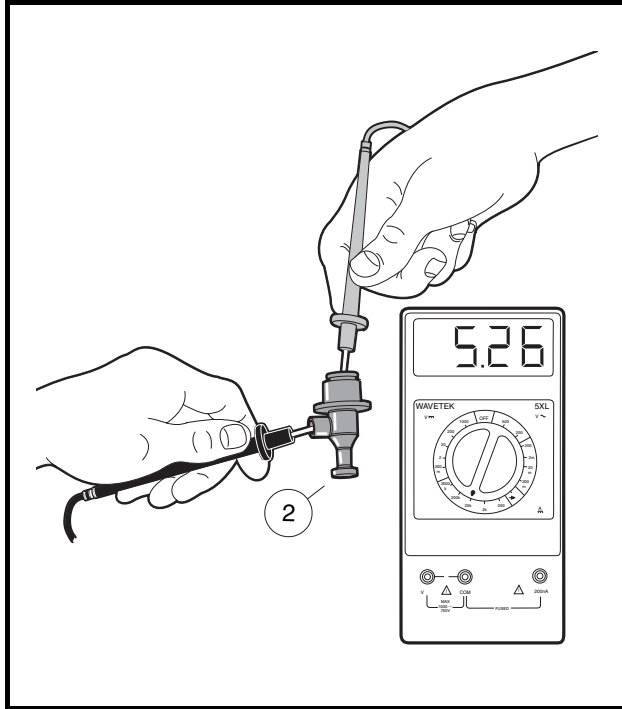

Figure 11-28 Spark Plug Cap Test
- 5.3. Using a multimeter set to 20k ohms, place the red (+) probe of the multimeter into the end of the spark plug cap that normally connects to the spark plug and place the black (–) probe into the end of the cap with the internal screw (**Figure 11-28, Page 11-26**). If the resistance is not between 4.5k - 6.0k ohms, the cap has failed and must be replaced. Proceed to the next step with the spark plug cap still removed.
- 4.3. Using a multimeter set to 20k ohms, place the red (+) probe of the multimeter into the end of the spark plug cap that normally connects to the spark plug and place the black (–) probe into the end of the cap with the internal screw (**Figure 11-28, Page 11-26**). If the resistance is not between 4.5k - 6.0k ohms, the cap has failed and must be replaced. Proceed to the next step with the spark plug cap still removed.